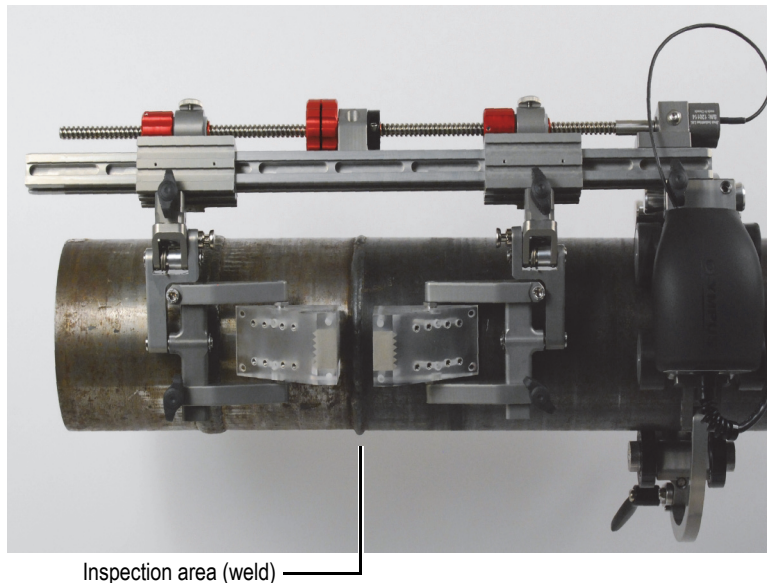

Figure 4-1 Center the inspection area between the probes
2. Center the inspection area between the probes (see “To move the probe holders together” on page 44 and Figure 4-1 on page 65).